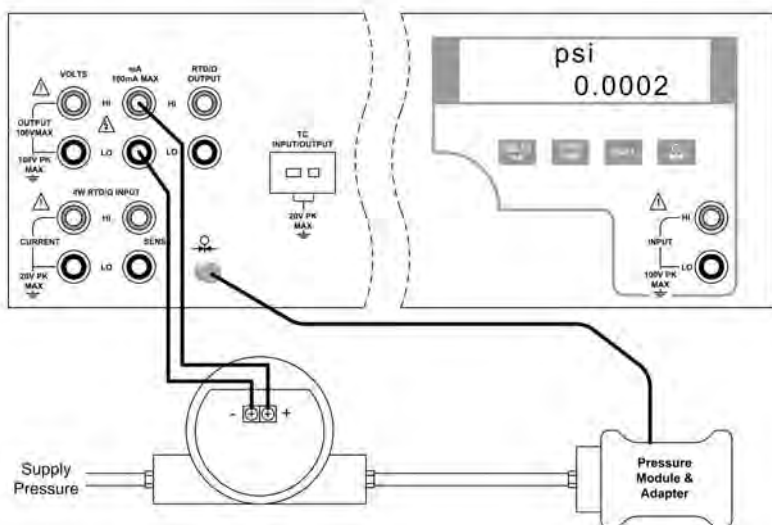

Figure 21 - I/P Transmitter Application
4. Connect the transmitter as shown in figure 21.